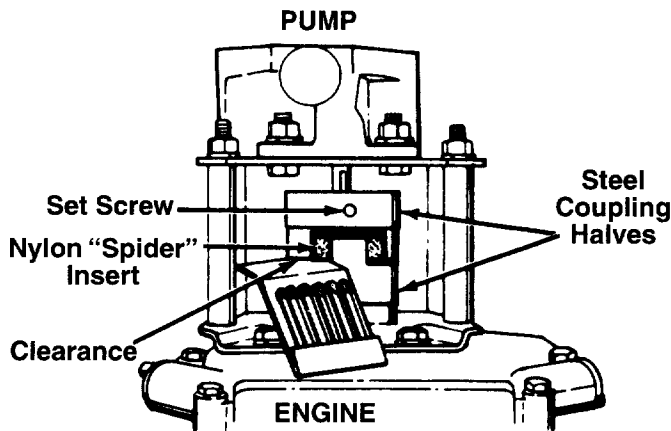

FIGURE 16.—Bottom View
- Set .010 to .060 inch clearance between the nylon "spider" and the engine coupling half by sliding a matchbook cover between the nylon "spider" and the engine coupling half and moving pump coupling half as needed. Secure pump coupling half with set screw. See figure 16.